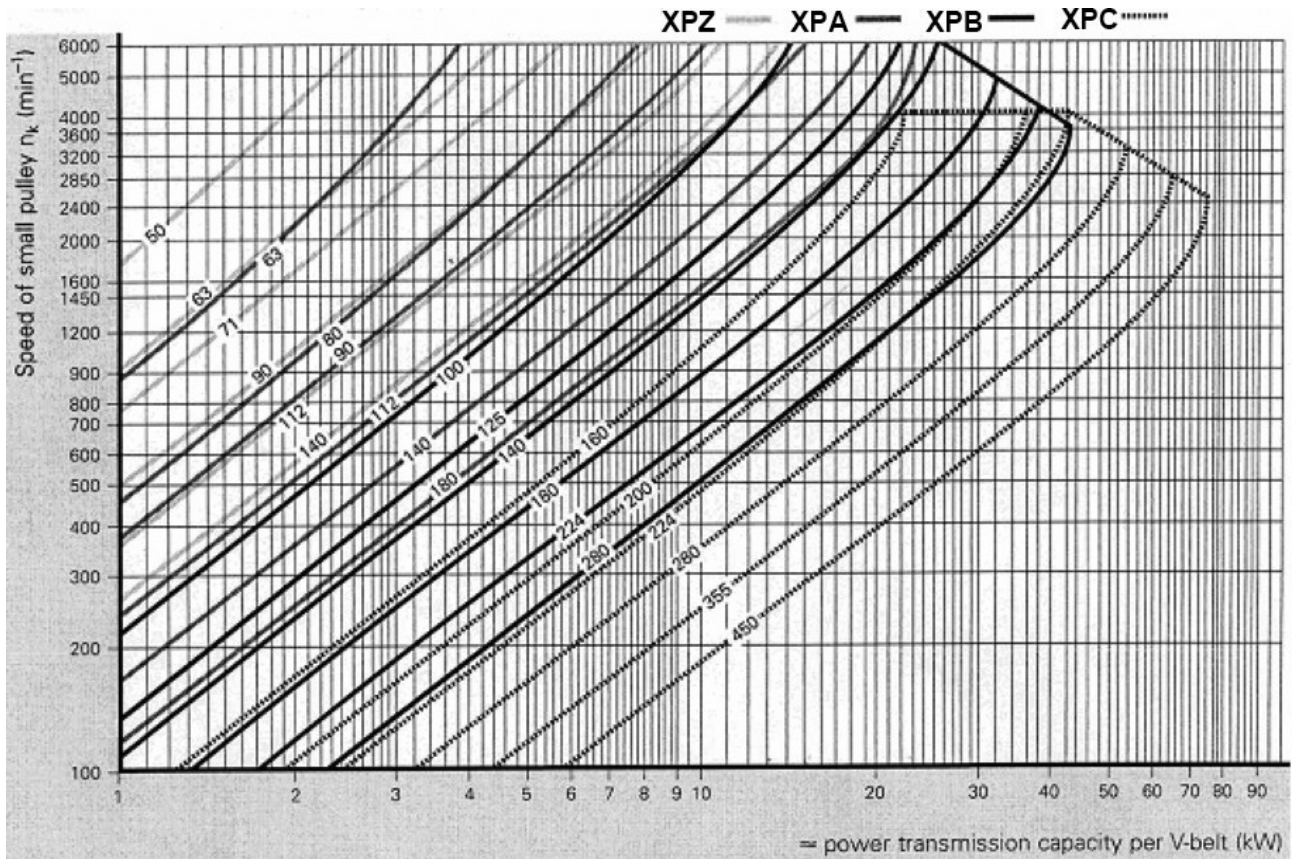
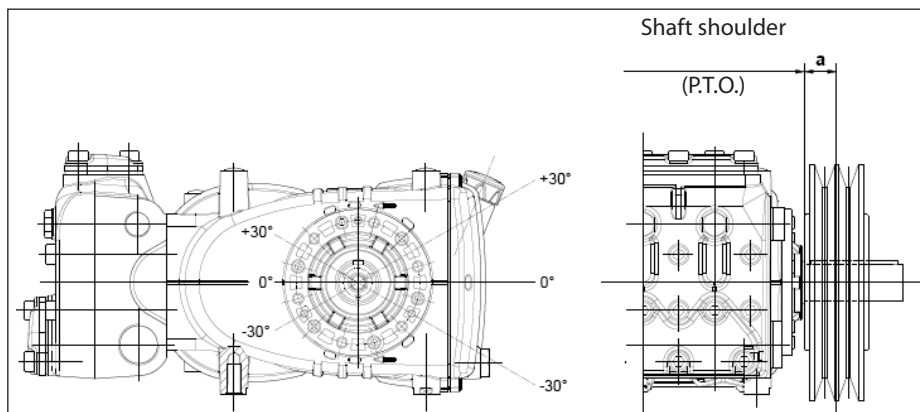

Fig. 7
Fig. 10
The pump can be controlled by a V-belt system. For these pump models, we recommend use of 3 XPB belts (16.5x13 serrated). Use an XPC profile only for long durations. Both the characteristics and transmissible power of each belt can be verified in the diagram in Fig. 7, in relation to the number of rpm normally declared by the manufacturer. Minimum duct pulley diameter (on pump shaft): ≥ 160 mm. The radial load on the shaft must not exceed 4500 N (value necessary for Layout definition). The transmission is considered adequate if the load is applied to a maximum distance $a = 50$ mm from the shaft shoulder (P.T.O) as shown in Fig. 10.
- b) Use high performance belts – for example **XPB** instead of **SPB** – as a lower quantity of belts for the same transmitted power may be necessary and a consequent shorter resulting distance compared to the shaft shoulder (P.T.O) "a" of Fig. 10.
- e) Follow the direction of the belt pull as shown in Fig. 10 for other needs, contact our **Technical** or **Customer Service Departments**.